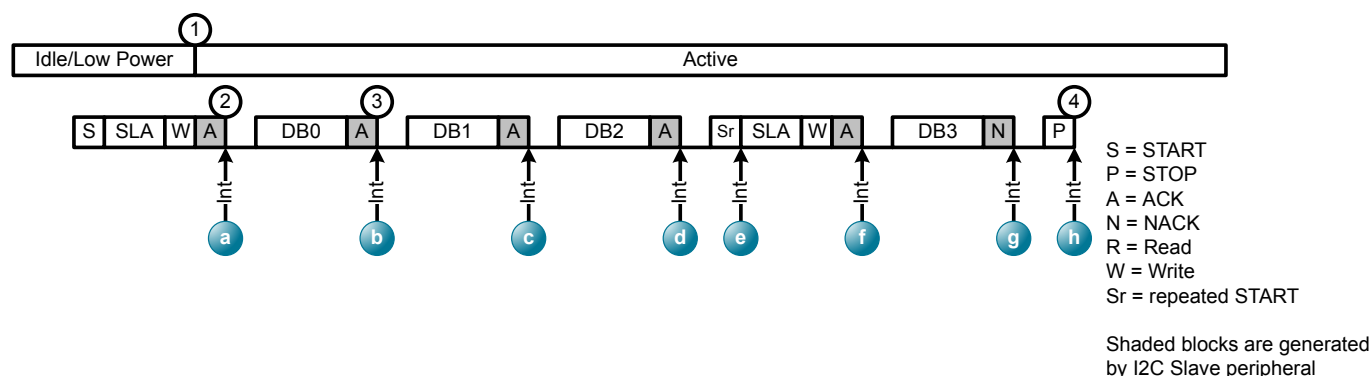
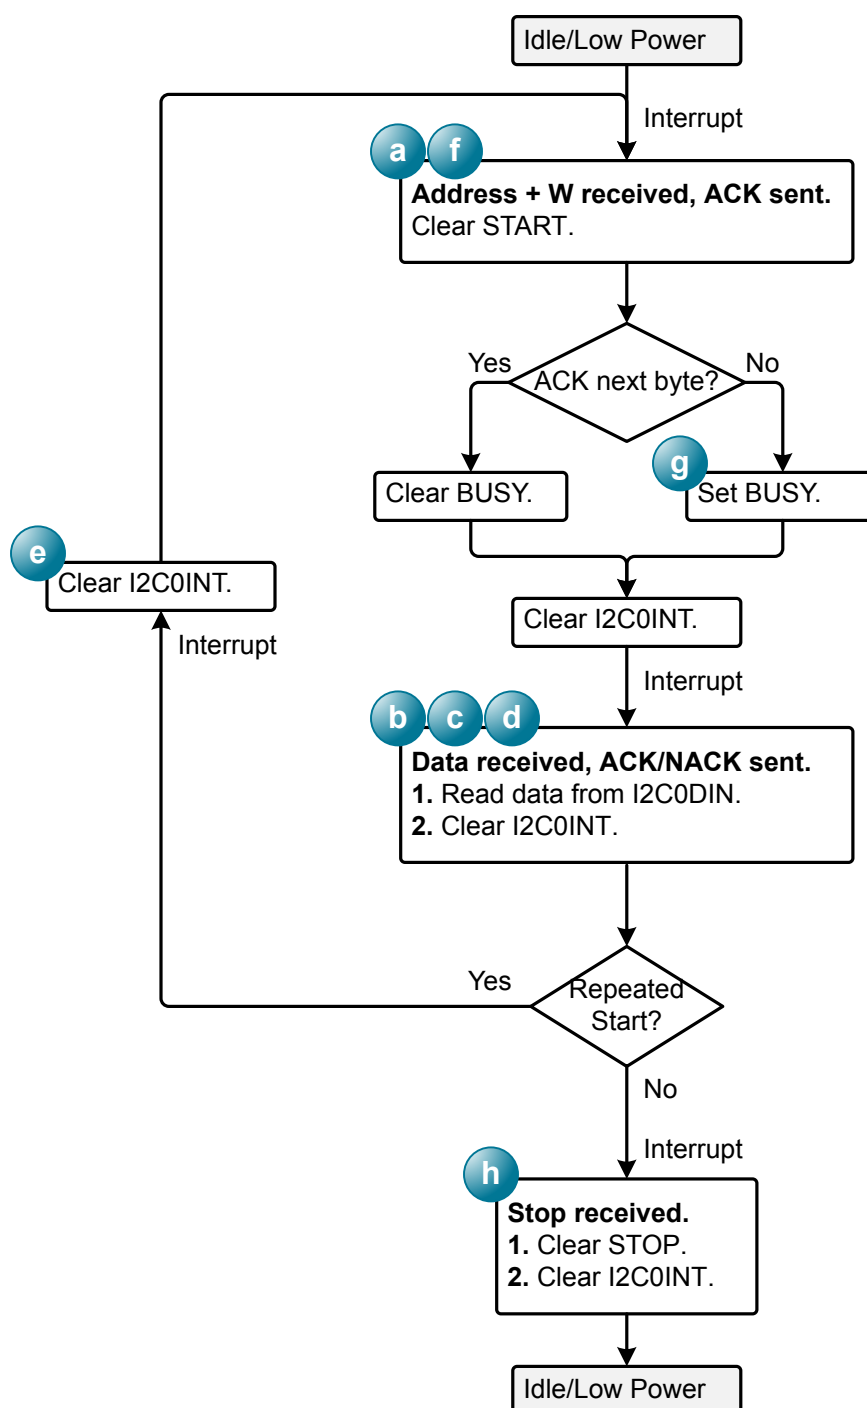

Figure 15.5. Example I2C Write Sequence with the I2C Slave Peripheral
Figure 15.6. I2C Write Flow Diagram with the I2C Slave Peripheral
2. An interrupt occurs after the automatic ACK of the address. The I2C peripheral holds the SCL line low for clock stretching until firmware clears I2C0INT. Firmware should take the actions indicated by Figure 15.6 I2C Write Flow Diagram with the I2C Slave Peripheral on page 183.
Figure 15.5 Example I2C Write Sequence with the I2C Slave Peripheral on page 182 demonstrates an example sequence, including a repeated start, and Figure 15.6 I2C Write Flow Diagram with the I2C Slave Peripheral on page 183 describes the I2C Write sequence and firmware actions in each interrupt.
Note: Firmware can leave the BUSY bit as 0 in step F in the Figure 15.5 Example I2C Write Sequence with the I2C Slave Peripheral on page 182 sequence. In this case, the master will receive an ACK instead at step G could still generate a STOP bit immediately after the ACK.